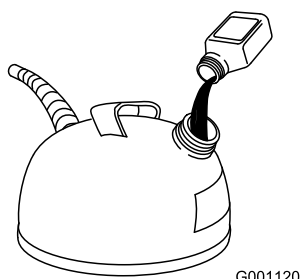

Figure 18
2. Add two-cycle oil to the gasoline according to the chart below (Figure 18):